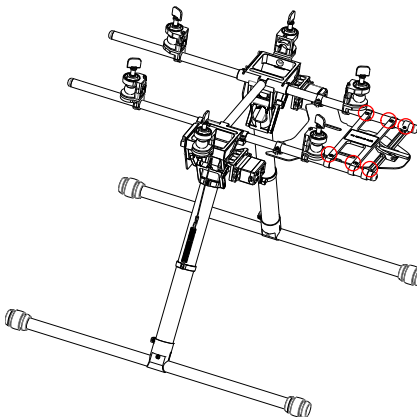

Fig.3
3. (Fig.3) Adjust the IMU Mount and the Battery Bracket, and then fix all the screws.